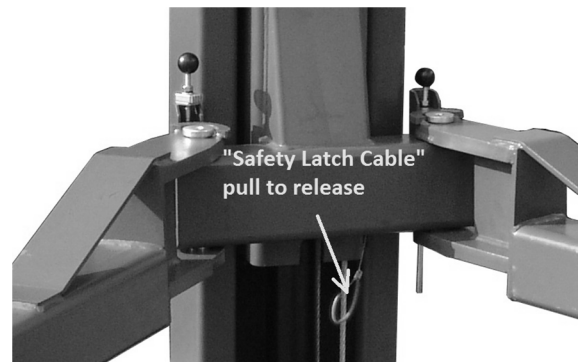

Fig. 20
2. To lower the lift, both carriage's safety latch releases must be manually pulled down to be released to lower lift (Fig.20). The latches will automatically reset once the lift ascends approximately 17" from base.